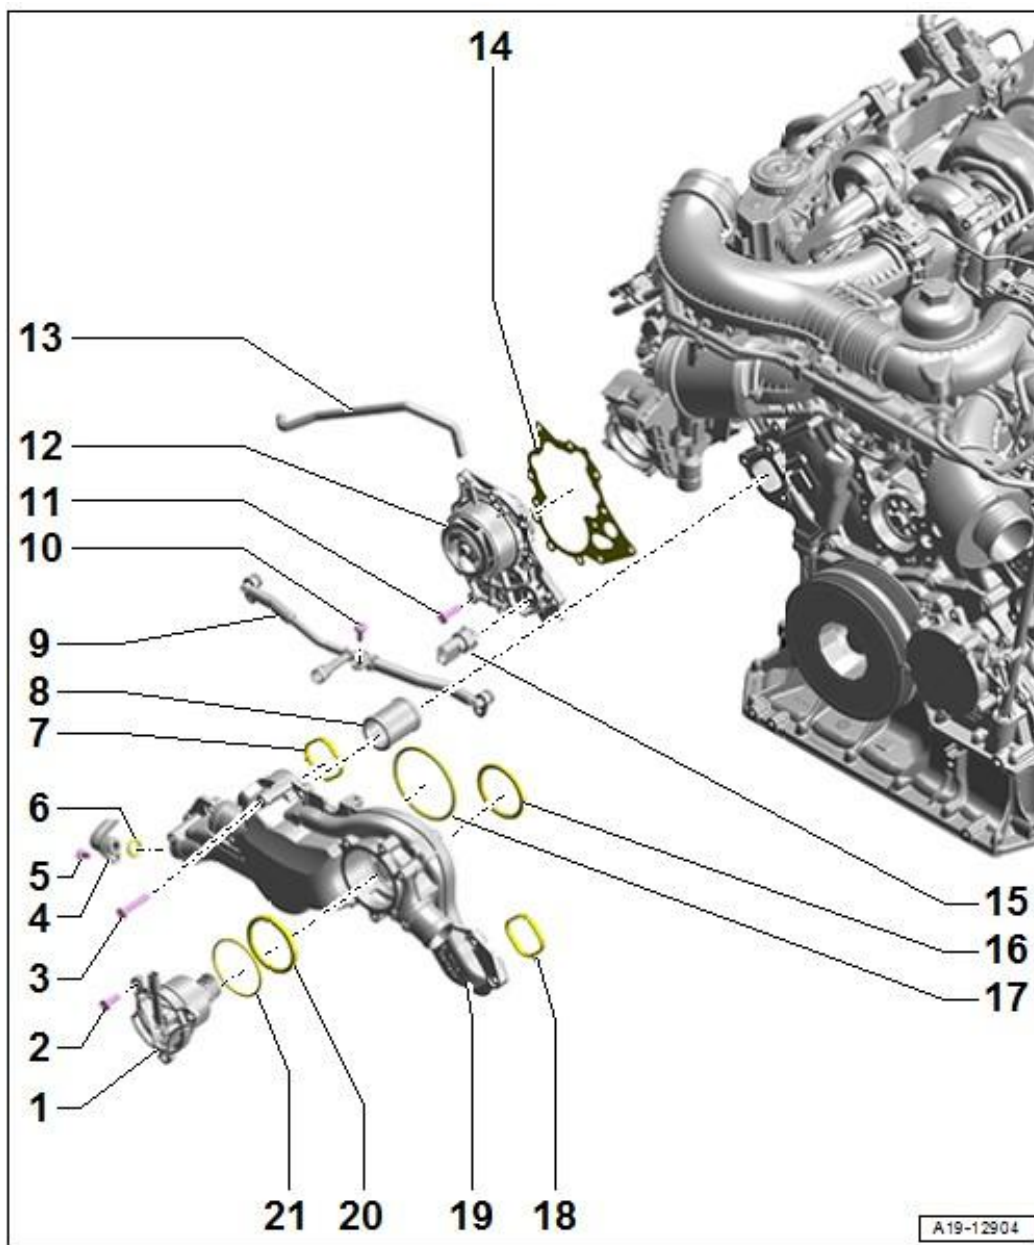

Figure 5. Assembly overview – coolant pump/thermostat incl. switchable mechanical coolant pump, number 12.
Also, always check whether a coolant leak has occurred at the vacuum connection of the mechanical coolant pump towards N649. If there is any coolant in the vacuum connection of N649 or in the vacuum hose between the mechanical coolant pump and N649, replace N649, the mechanical coolant pump, and the vacuum hose between N649 and the mechanical coolant pump (Figure 5, item 13).